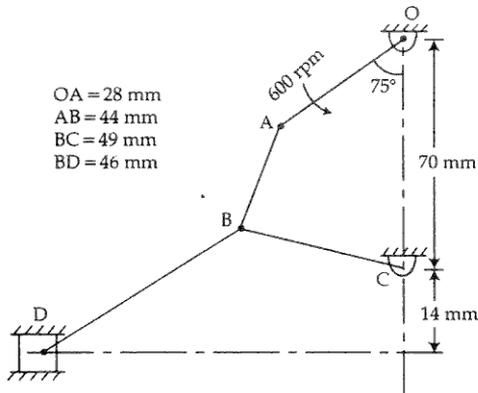

Figure 3
- (f) Determine the linear velocity of the slider D shown in the mechanism (figure 3). The slider moves along the horizontal path and OC is vertical.